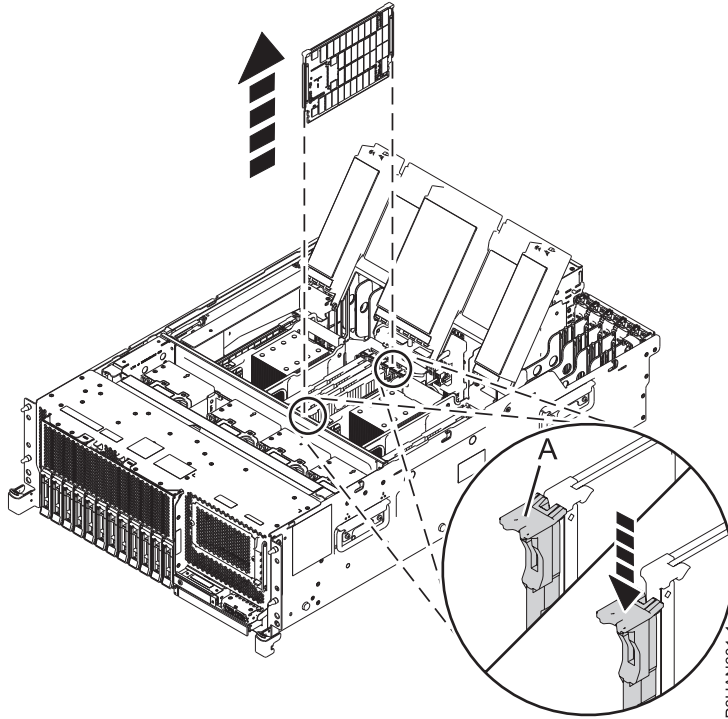

Figure 6. Removing a memory module from the system
2. To unlock the memory module from its connector in the slot, push the locking tabs (**A**) in the direction that is shown in Figure 6 on page 12. The lever action of the tabs forces the memory module out of the connector.